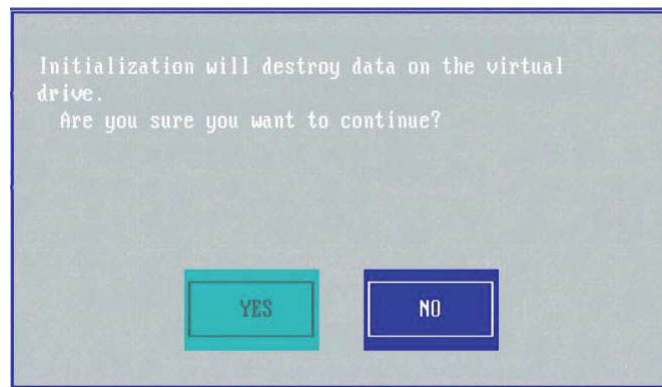

Figure 71. RCU – initialize a virtual drive
3. Select either **Fast Init** or **Slow Init** and press **<Enter>**. A confirmation dialog appears (Figure 71).